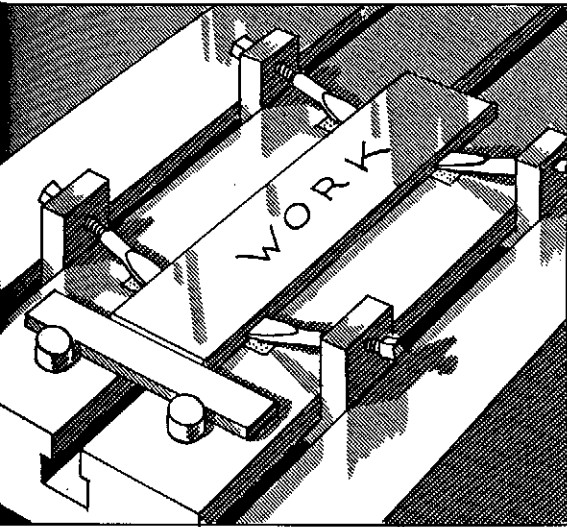

FIG. 184
7. Place the toe dogs in turn against the sides of the work, supporting the flat ends upon shims and the opposite ends against the screws of the stops (Fig. 184). Shims are not always used, but, when they are employed, the table surface is protected and the contact edges of the toe dogs are steadied.